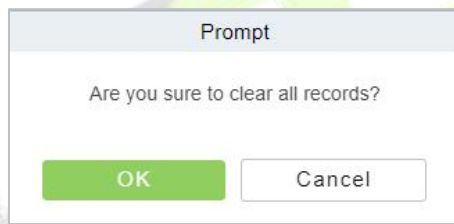

Figure 12-49 Clear All Data Option
Step 2: Click the **Clear All Data** to clear the access location records of the persons, as shown in Figure 12-49.